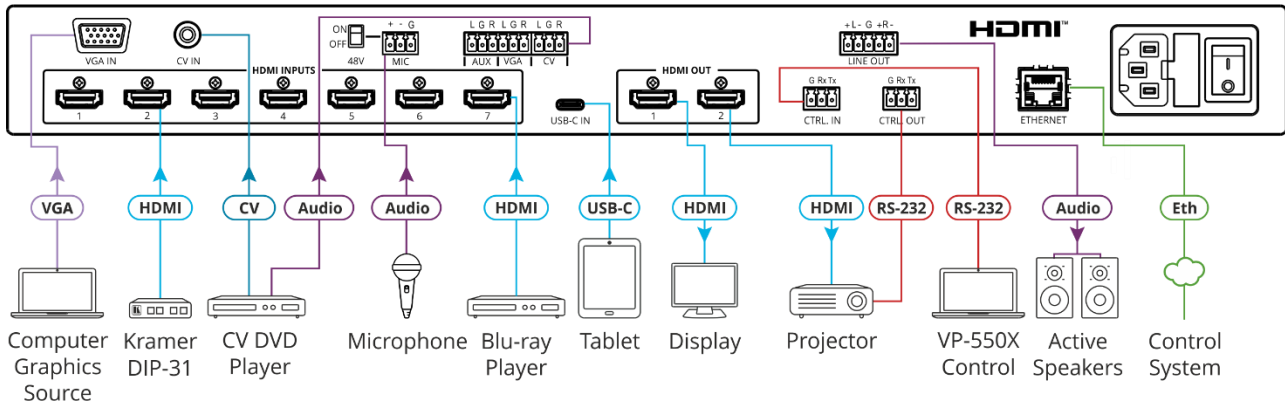

Figure 3: Connecting to the **VP-550X** Rear Panel
To connect the **VP-550X** as illustrated in the example in Figure 3:
1. Connect a computer graphics source (for example, a laptop) to the VGA IN15-pin HD Input connector (11).
2. Connect a composite video source (for example, a DVD player) to the CV IN RCA connector (12).
3. Connect up to 7 HDMI sources (for example, a Blu-ray player to HDMI 5) to the HDMI INPUT connectors (10).
4. Connect VGA and CV stereo audio sources to the audio input terminal block connectors (18) (for example, the CV DVD player audio source to the CV audio input).
5. Connect a microphone to the 3-PIN terminal block (15) and set the 48V switch (14) ON or OFF, as required.
6. Connect up to 2 HDMI OUT connectors (19) to HDMI acceptors (for example, HDMI 1 to a display and HMDI 2 to a projector).
7. Connect the LINE OUT 4-pin terminal block connector (21) to active speakers (for example, Kramer **Tavor 5-O** speakers).
8. Connect the RS-232 CTRL OUT 3-pin terminal block connector (22) to the RS-232 port of an external device (for example, the projector connected to HDMI 2).
9. Connect the RS-232 CTRL IN 3-pin terminal block connector (20) to the RS-232 port on a controller (for example, a laptop) to control the **VP-550X**.
10. Connect the ETHERNET RJ-45 port (23) to the Ethernet.
11. Connect the power cord to the **VP-550X** mains socket (24) and to the mains electricity (not shown in Figure 3).